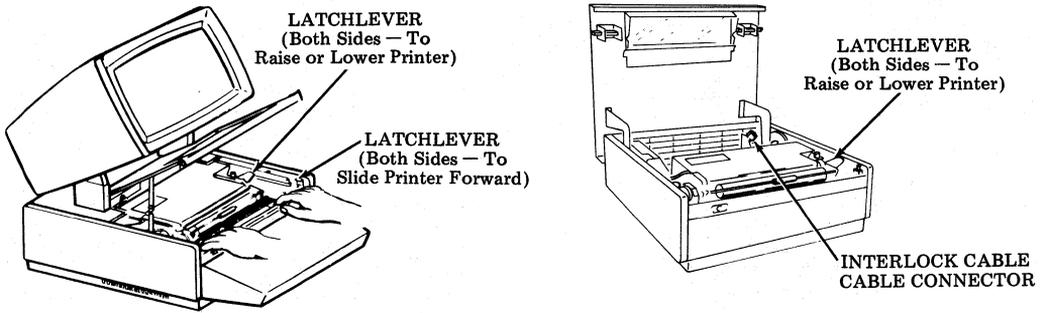

Fig. 22—Printer Under Monitor and Printer Adjacent
6.04 Depress latchlevers, and push printer down until it latches. Connect interlock cable at right rear corner of printer (Fig. 22).
Note: Installation of printer under monitor and printer adjacent is similar. For printer under monitor arrangement the printer mounting tracks slide out by releasing latches on both sides of the cabinet and pulling forward. See Fig. 22 for location of latches.